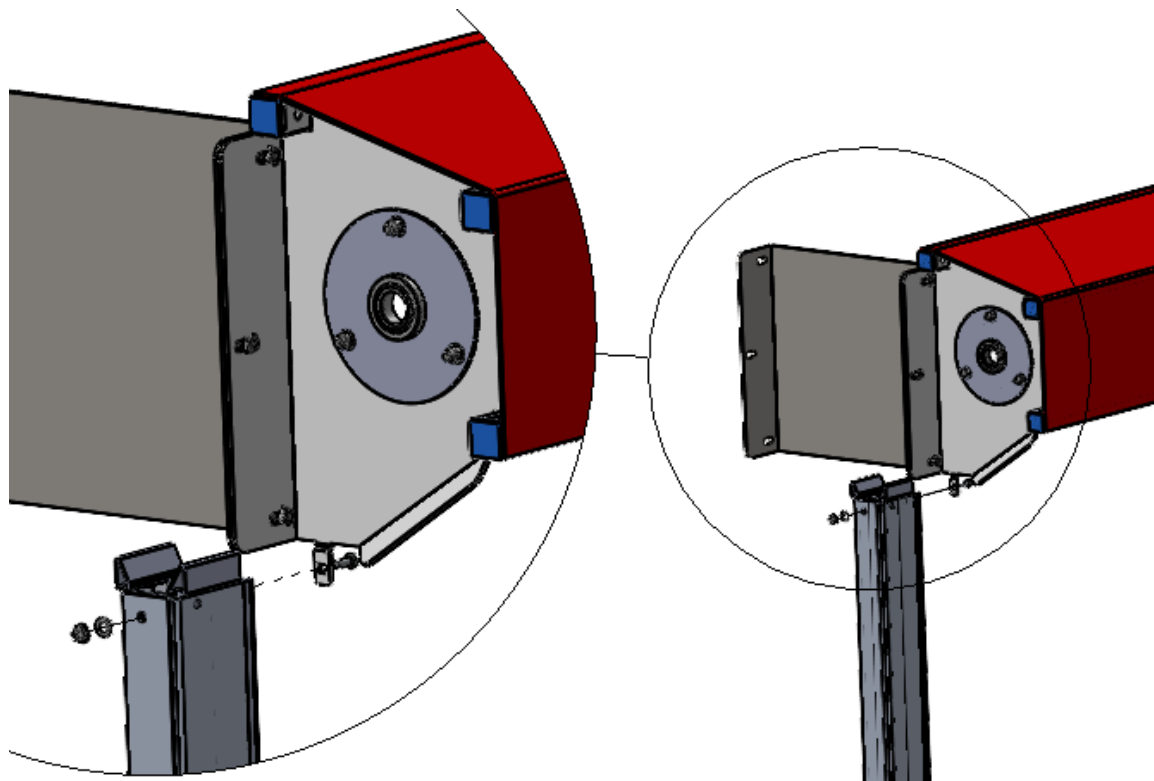

Figure 11 MOUNT TRACK TO HEADER
1. Align the square hole in the metal Transition Bracket of the Track Assembly with the square hole in the lower mounting tab on the Header Bracket. Insert the carriage bolt from the inside of the transition and the washer and hex nut on the outside of the assembly, as shown. Just snug this hardware for now. (Figure 11 MOUNT TRACK TO HEADER)